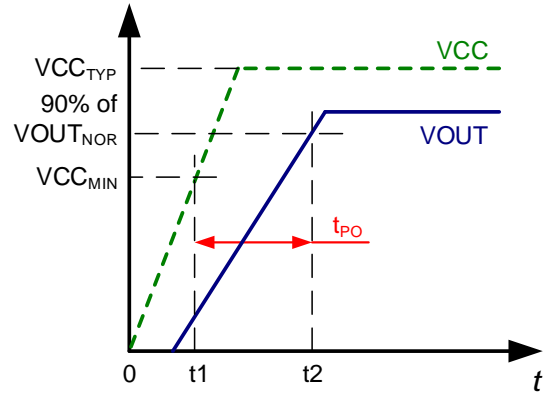

Figure 5: Power-On Time (t_{PO})
- $t2$: V_{OUT} settles within ±10% of its steady state value under an applied primary current (see Figure 5).